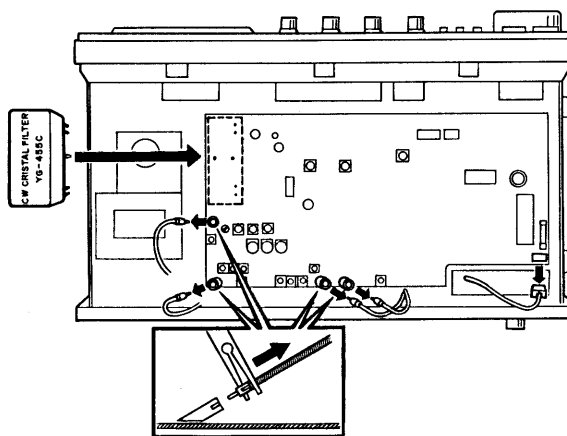

Fig. 2 Bottom View
2. Remove the ten screws holding the IF unit X55-1430-00 and carefully unplug the five connectors at the side and rear, as shown in Fig. 2. Swing the printed-circuit board forward.